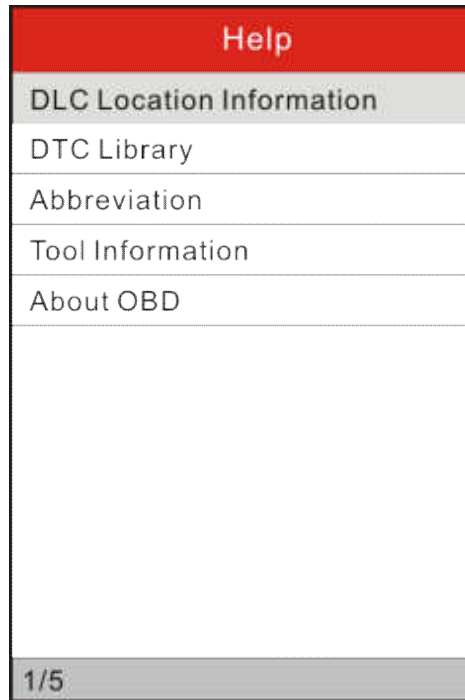

Figure 7-4
- 6. Highlight the "Tool Information" in figure 7-4 and press [OK].